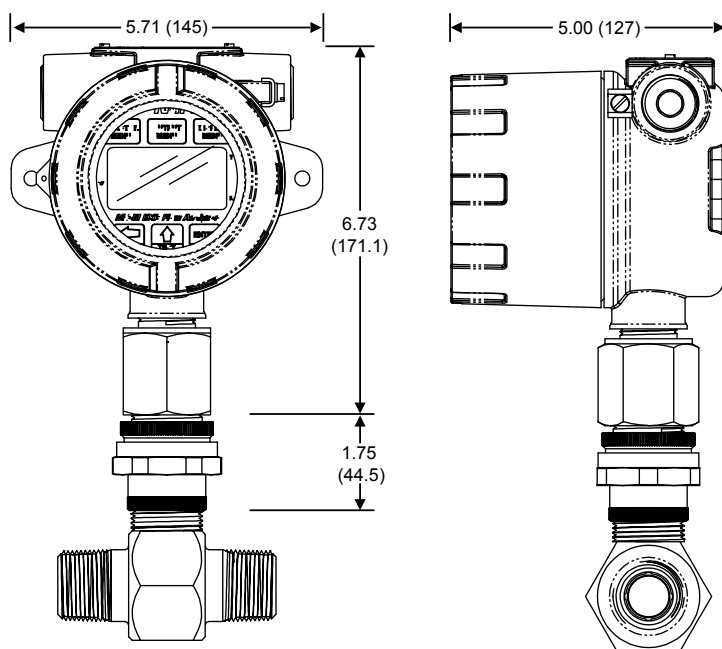
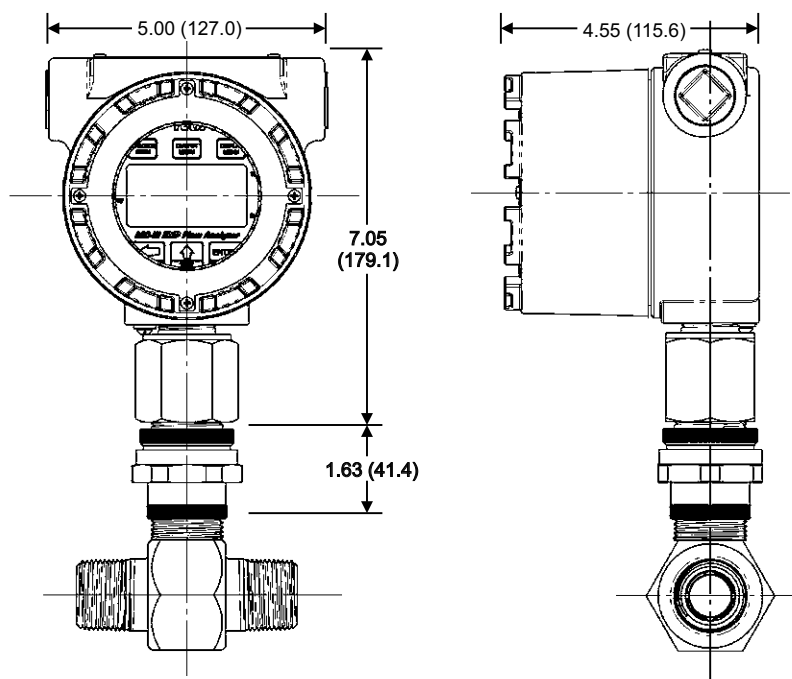
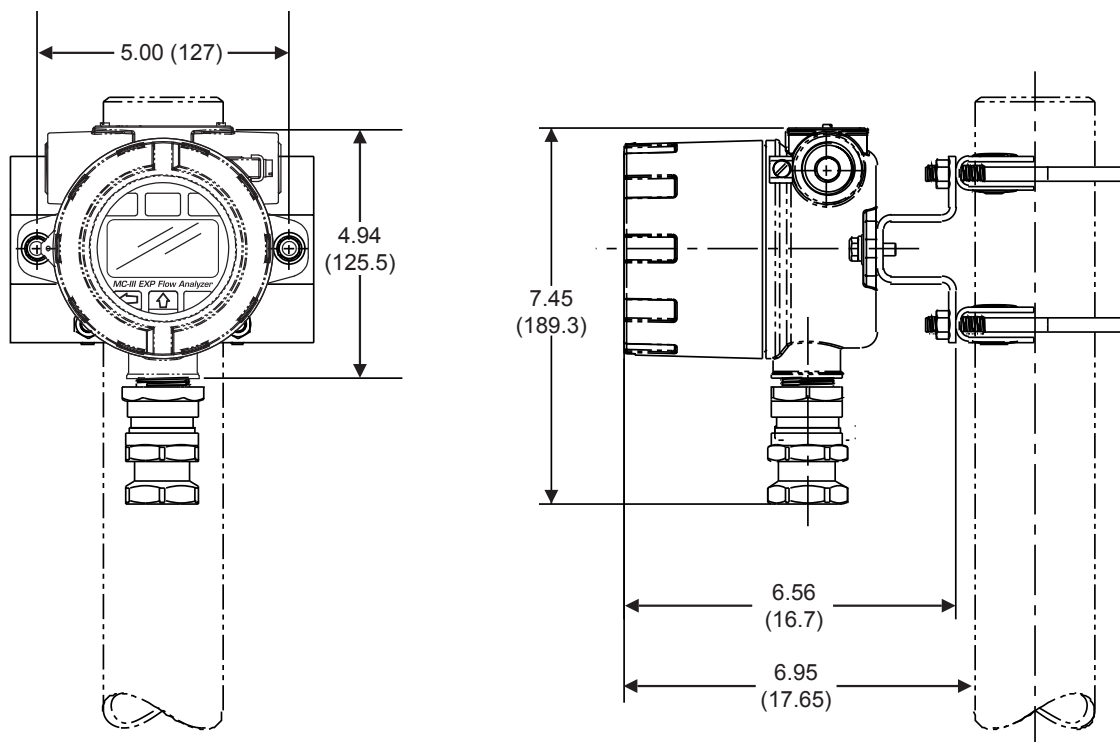

Figure 2.5—Direct mount (standard MC-III EXP enclosure) to NuFlo turbine meter with pipe reducer and union (CSA)
Figure 2.6—Direct mount (alternate MC-III EXP enclosure) to NuFlo turbine meter with pipe reducer and union (CSA)
Figure 2.7—Remote mount on a 2-in. pole using a NuFlo hardware kit (Part No. 9A-30028004)
The CSA-approved MC-III EXP is available in either of two enclosure styles. The standard enclosure shown on the cover of this manual and in Figure 2.5, page 24, features integral mounting holes on either side of the enclosure, allowing it to be mounted to a flat bulkhead.
The alternate enclosure (Figure 2.6, page 24) does not have the bulkhead mounting holes on the sides. Another distinguishing feature is the bright red ring that frames the display window. The alternate enclosure is slightly taller than the standard enclosure.
The MC-III EXP may be mounted directly to a flowmeter, or mounted remotely on a pole and connected to a flowmeter with explosionproof signal cable. The type of meter mount required varies with the meter in use. See Figure 2.5 through Figure 2.7 for installation dimensions.
- Mount the device to a NuFlo turbine meter or a Barton 7000 Series turbine meter. A CSA-approved pipe reducer and union connector is required (Figure 2.5, page 24). Figure 2.6, page 24, shows the same installation with the alternate MC-III enclosure.
- Remote-mount the device to a 2-in. pole using a NuFlo hardware kit (Figure 2.7, page 25). Pole mounting may be preferred where limited space or pipe vibration prohibits direct-mount installation. For best results, install the device as near as possible to the meter to minimize the length of explosionproof signal cable that must be used for communications. Stranded, shielded cable is recommended.